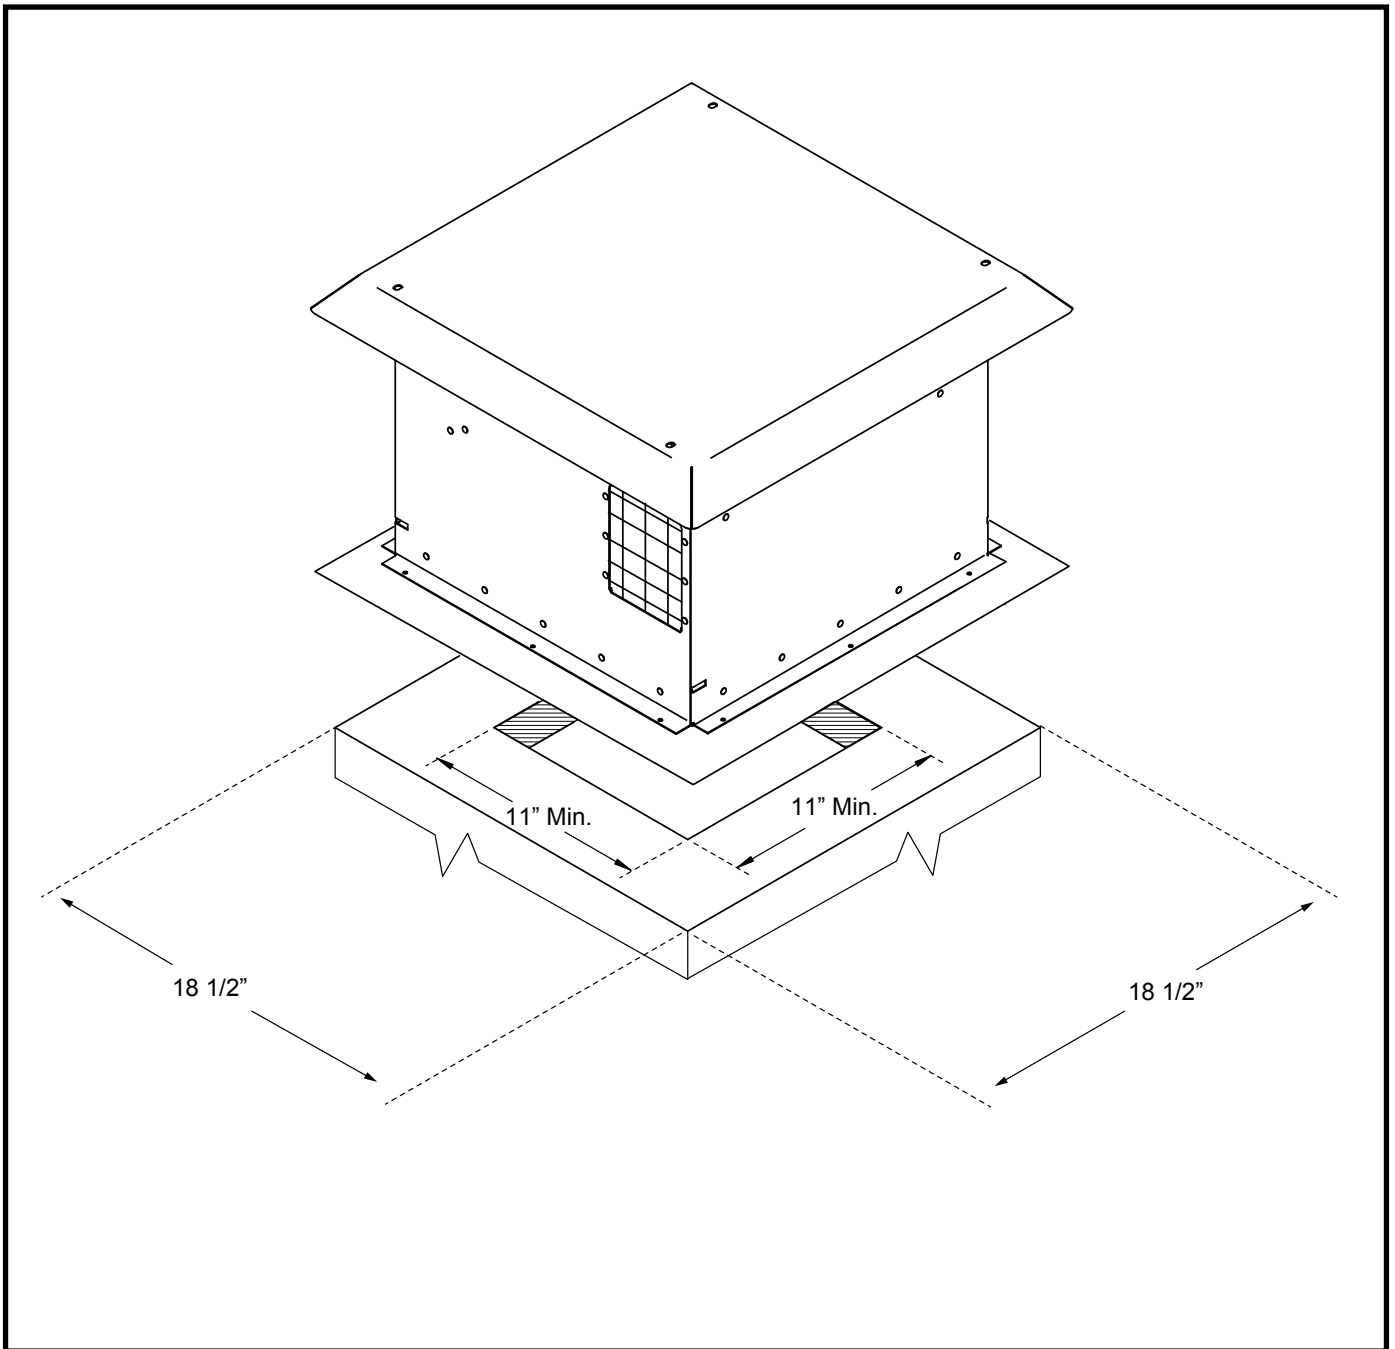

Figure 5: TCVT.PVWT Installation.
4. Seal and attach the power vent terminal base plate to the site fabricated chase as necessary to prevent moisture from entering the power vent unit. (Figure 5 on page 8) and flash according to local codes.